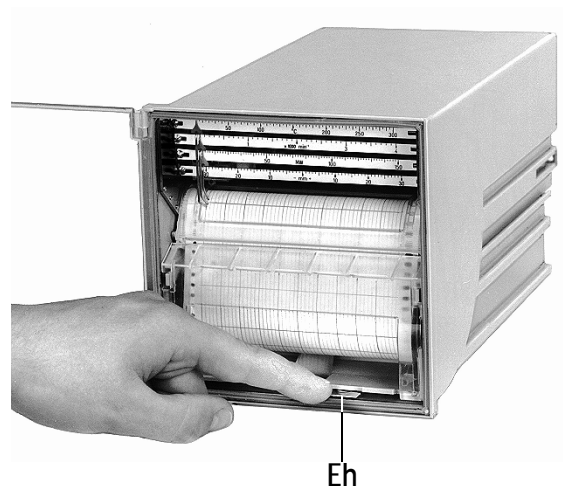

Figure 1 Removing the recording table
- Press the unlocking lever **Eh** (see figure 1) downwards; the recording table tilts to the front. Remove the recording table.